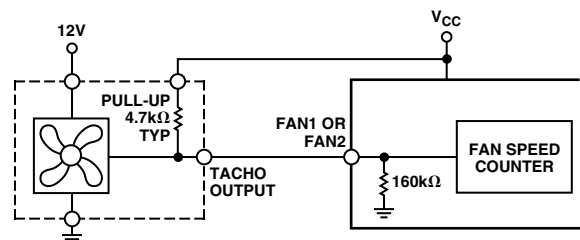

Figure 10a. Fan with Tach. Pull-Up to $+V_{CC}$
1. All of these circuits will provide an output range from zero to almost 12 V, apart from Figure 10a which loses the base-emitter voltage drop of Q1 due to the emitter-follower configuration.
Figures 10a to 10d show circuits for most common fan tach outputs.
If the fan tach output has a resistive pull-up to V_{CC} it can be directly connected to the fan input, as shown in Figure 10a.